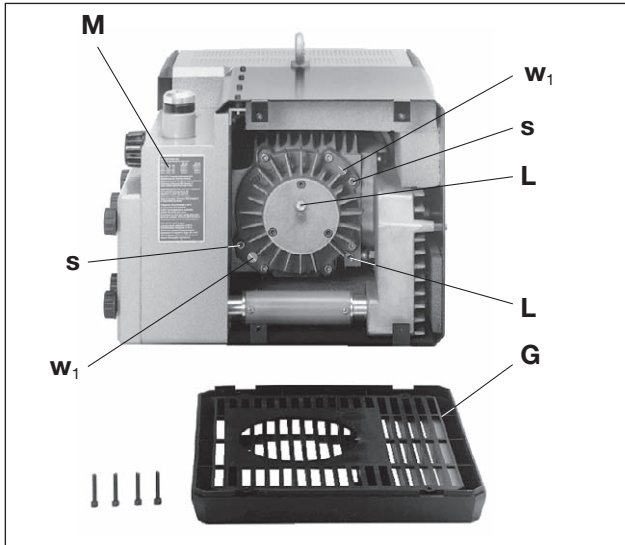
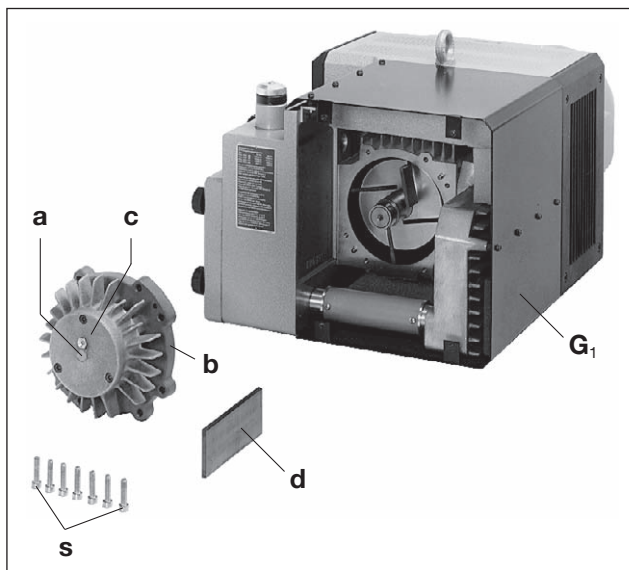
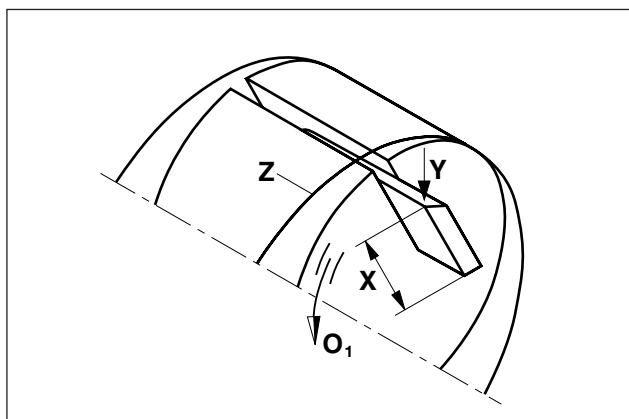

Fig. 4 Lubrication/ Blades
Fig. 5 Lubrication/ Blades
Fig. 6 Blades
The bearings must be greased at the 2 greasing points (Fig. 4/L) with 6 g per point, after the following recommended operating hours or at the latest one year operation:
To lubricate the inlet grating (Fig. 4/G) must be unscrewed.
We recommend the following brands of grease: KlüberPetamoGY193 or other equivalent greases (see also grease recommendation plate (Fig. 4/M)).
First check after 4,000 operating hours and then every 1,000 operating hours or, depending on the height (Fig. 6/X) earlier.
Remove inlet grating (Fig. 4/G). To remove the end cover (Fig. 5/b) from the housing, the bolt (Fig. 5/a) located in the centre of the bearing cover (Fig. 5/c) should be removed. To achieve this one of the fixing bolts (Fig. 5/s) from the housing cover should be screwed into the thread in the centre of the bearing cover. Remove the blades (Fig. 6/d) to be checked. All blades on the machine must have a minimum height (Fig. 6/X) of more than 38 mm.
Do not undo the **slotted nuts** (Fig. 4/w₁) on the housing lid (Fig. 5/b). Only the screws (Fig. 4/s) need to be removed to change the blades.
Before refitting the blades clean out the housing and the rotor slots with compressed air. Place the blades, with the radius outwards (Fig. 6/Y), such that the bevel is in the direction of rotation (Fig. 6/O₁) and corresponds with the radius of the housing (Fig. 6/Z).
Before refitting the end cover (Fig. 5/b) redistribute the grease from the bearing cover (Fig. 5/c) on to the appropriate bearing. It is important that the shaft end is completely clean so that no grease can enter the housing, this could mix together with carbon dust and give a viscous paste which would result in the blades becoming stuck in the rotor slots.
When re-fitting the end cover tighten the bolts evenly so that the end cover fits correctly onto the fixing pins. As soon as the cover is almost touching the housing, we recommend during further tightening of the bolts, the fan is moved in both directions. This can be achieved by taking the grill at the cooling air exit (F) away. This then ensures that the blades are sitting correctly in their slots and avoids any edge damage. Refit the suction grid (Fig. 4/G).